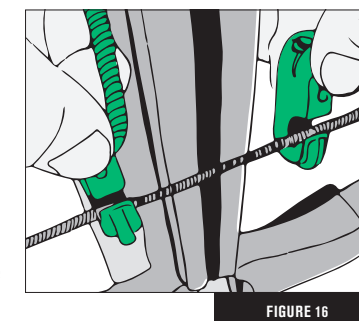

FIGURE 16
4. Place the hooks of the cocking rope onto the crossbow string on each side of the flight rail. For the maximum pull force, place the cocking hooks up, not hooks down. (Fig. 16)